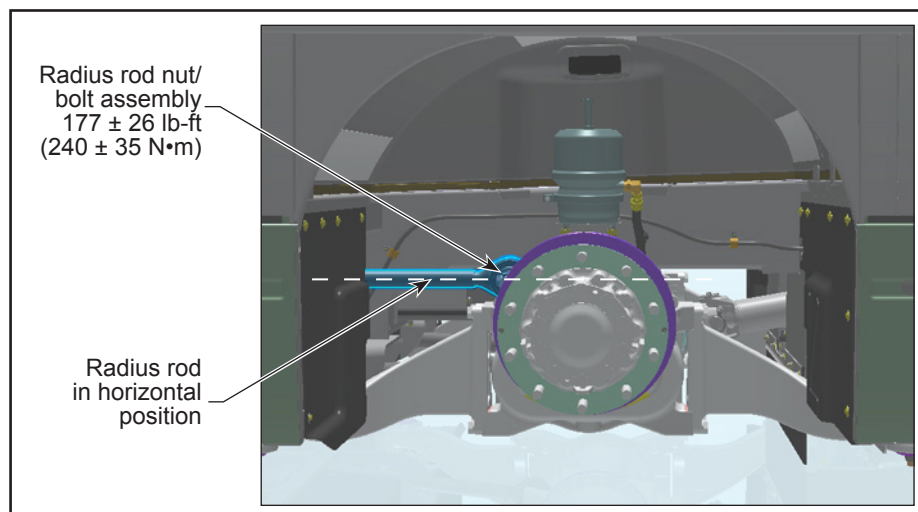

Figure 5 - Radius Rod
- 2.21. Raise the axle until the radius rod is in a horizontal position. See Figure 5. Loosen the threaded connection between the radius rod and the bracket.
- 2.58. Raise the axle until the radius rod can be attached in a horizontal position. See Figure 5.
- 2.59. Fix the radius rod in place with the retained hex screws. See Figure 5. Apply a lubricant such as Never-Seez or equivalent.